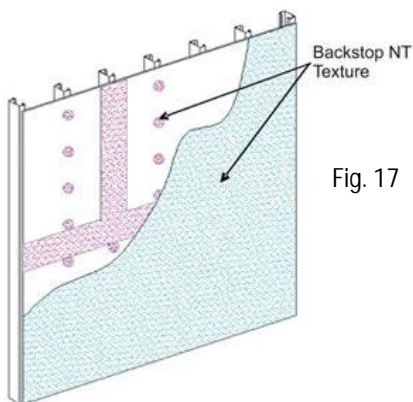

Fig. 17
- 3) Use a coarse, open-cell foam roller cover with a 3/8 in (9.5 mm) foam nap (FoamPRO #58 roller). Apply a uniform, continuous film of Backstop NTX – Texture over the entire surface of the sheathing, concrete, or masonry, including the previously treated areas – Figure 17. NOTE: If the roller pulls material back out of the sheathing joints, it indicates that the joint material is not sufficiently dry.